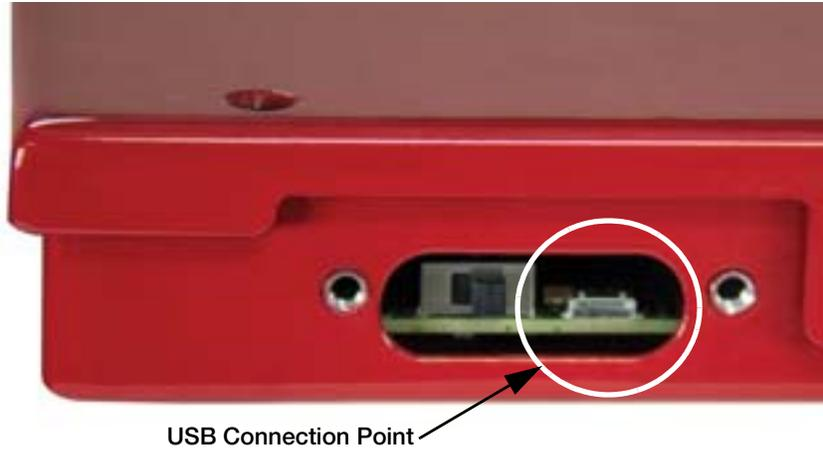

Figure 4-11. Micro B USB iQube² Junction Box Connection
2. Use a standard type A to micro type B USB cable (PN 163898) to connect to the iQube² junction box and PC as shown below in Figure 4-11.